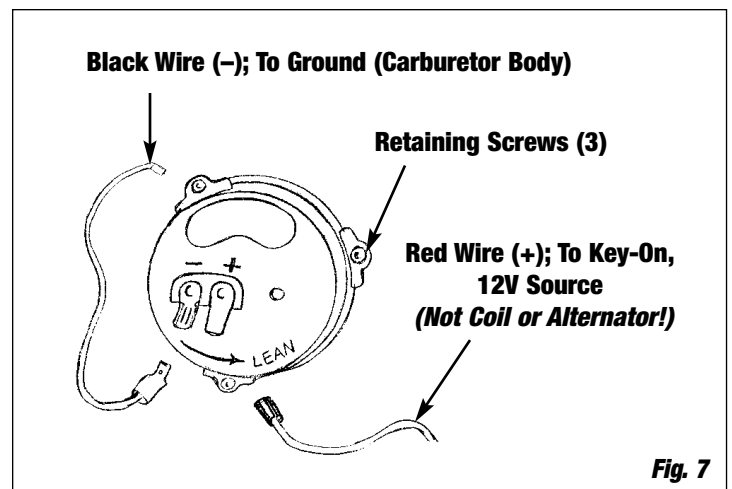
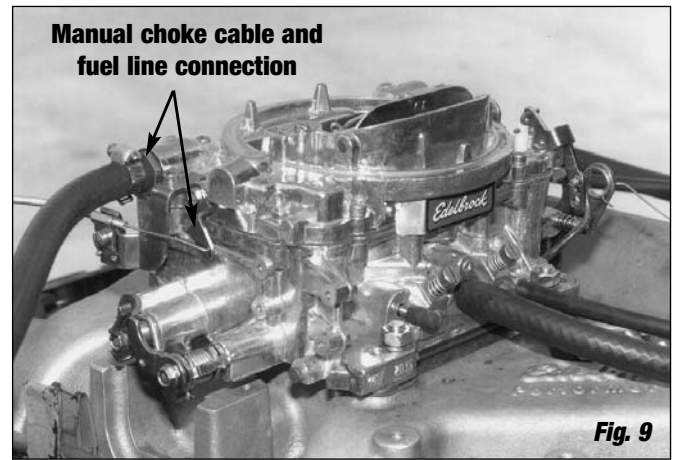

Fig. 7
Fig. 9
3. On electric choke models (**See Fig. 7**), remove one choke housing retaining screw and install eyelet end of choke ground wire (black) to choke housing and reinstall screw. Connect clip end of choke ground wire to negative (-) spade terminal on choke housing.
5. Connect manual choke cable to the provided lever attachment point and cable mounting bracket (manual choke models) (**See Fig. 9**). Electric choke models connect red choke wire to 12 volt (+) source that is activated by ignition switch (**Not coil or alternator, see Fig. 7**).